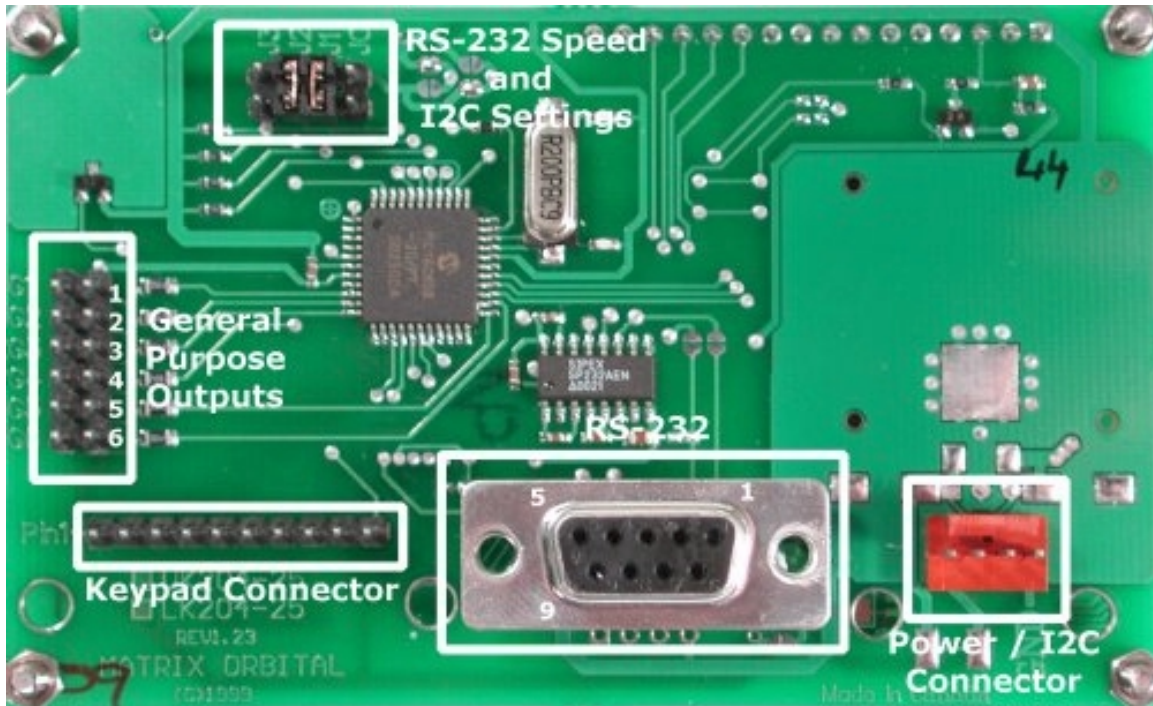

Figure 2-1 Electrical Connections
1. Refer to the diagram above and Figure 2-1 for the following steps.
Power is applied via pins 1 and 4 as shown in Figure 2-1. Power requirement is +5 VDC  $\pm$ 0.25V. Power may also be supplied via the RS-232 connector as described in the next section.